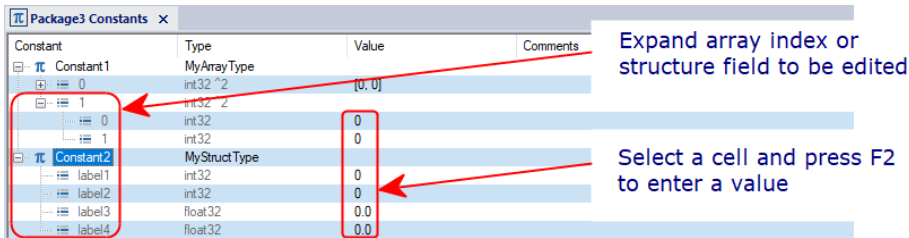

Figure 3.40: Setting the values of a constant of array/structure type
- 2 Select each cell corresponding to the definition of the data array/structure in the **Value** column as shown below in Figure 3.40.